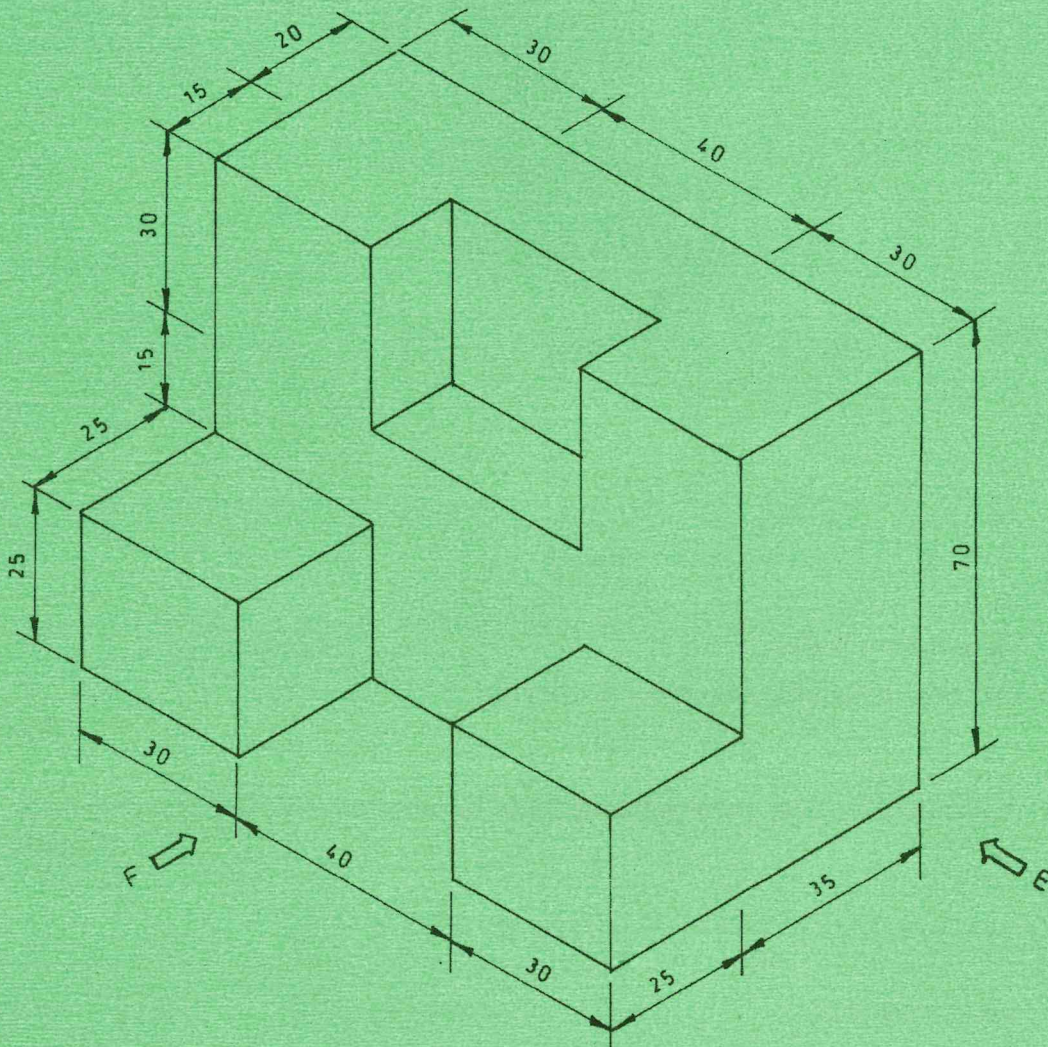

Fig.3
3. Figure 3 shows an isometric block. Using third angle projection, draw the following: